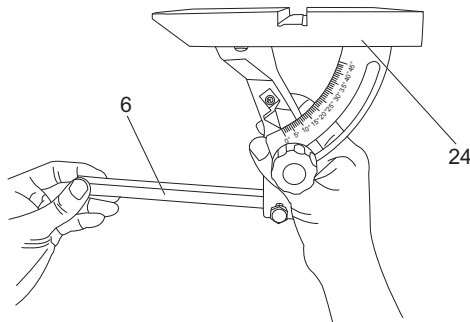

Fig. 10
- > Insert the worktable rod (6) into the hole of the worktable assembly (24) as shown in figure 10.